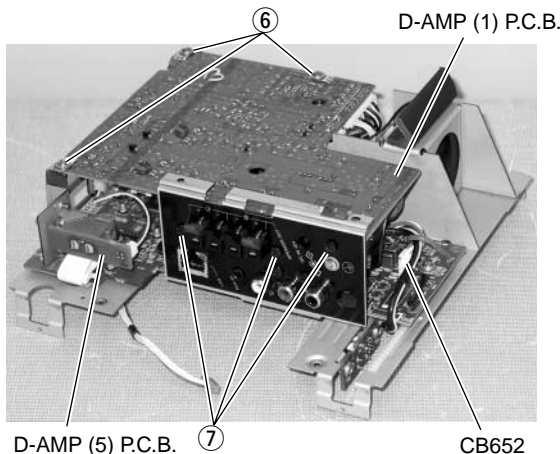

Fig. 5
4. Removal of D-AMP (1) P.C.B. and D-AMP (5) P.C.B.
- a. Remove 3 screws marked [⑥] and 3 screws marked [⑦]. (Fig. 5)
- c. Remove CB652. (Fig. 5)
- d. Remove D-AMP (1) P.C.B. and D-AMP (5) P.C.B.
4. D-AMP (1) P.C.B.及びD-AMP (5) P.C.B.の外し方
- a) ⑥のネジ3本、⑦のネジ3本を外します。(Fig. 5)
- c) CB652を外します。(Fig. 5)
- d) D-AMP (1) P.C.B.及びD-AMP (5) P.C.B.を外します。
Install D-AMP (1) P.C.B. and D-AMP (5) P.C.B. as originally installed and connect CB652 which was disconnected during disassembly. (Fig. 5)
D-AMP (1) P.C.B.及びD-AMP (5) P.C.B.は元通りに取り付けます。分解時に外したCB652を接続します。(Fig. 5)